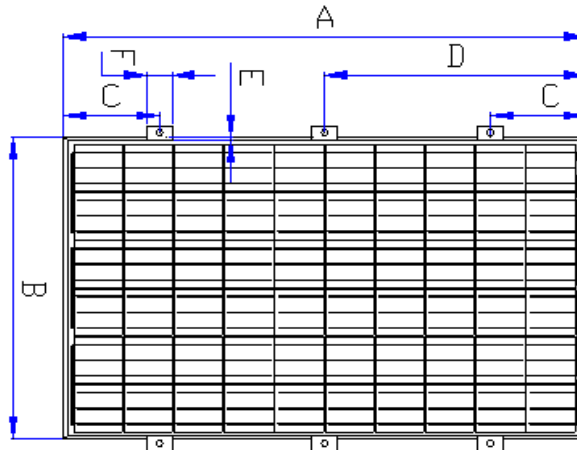

FIG 9
- If heavy snowfall, relatively large snow load or large wind pressure exist in the module installation area, CSUN suggests the customer to selecting the 5400Pa strengthening installation scheme to clamp and fix the module (as shown in FIG 9) to improve the bearing capacity of the module for static snow load at front side and dynamic wind pressure at back side, and enhance the system capacity.